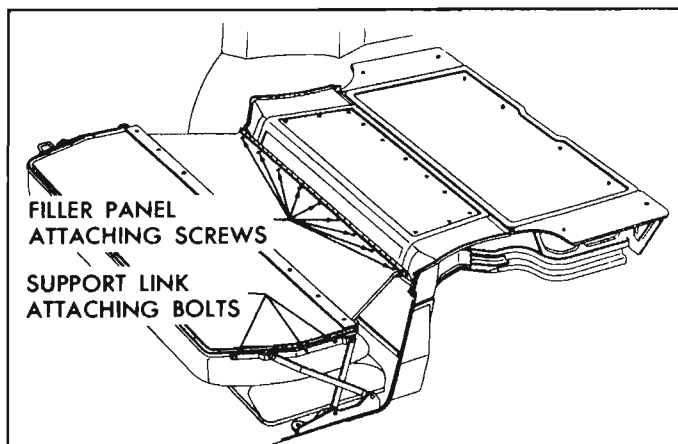

Fig. 10-108—Rear Floor Filler Panel Assembly
2. Remove bolts securing right and left mounting support link assemblies to seat back assembly (fig. 10-108) and remove folding 2nd seat back assembly from body.
1. Remove screws securing filler panel to filler panel hinge (fig. 10-108) and remove filler panel assembly from body.
3. As a bench operation, remove screws securing hinge to filler panel (fig. 10-108) and remove filler panel hinge assembly.